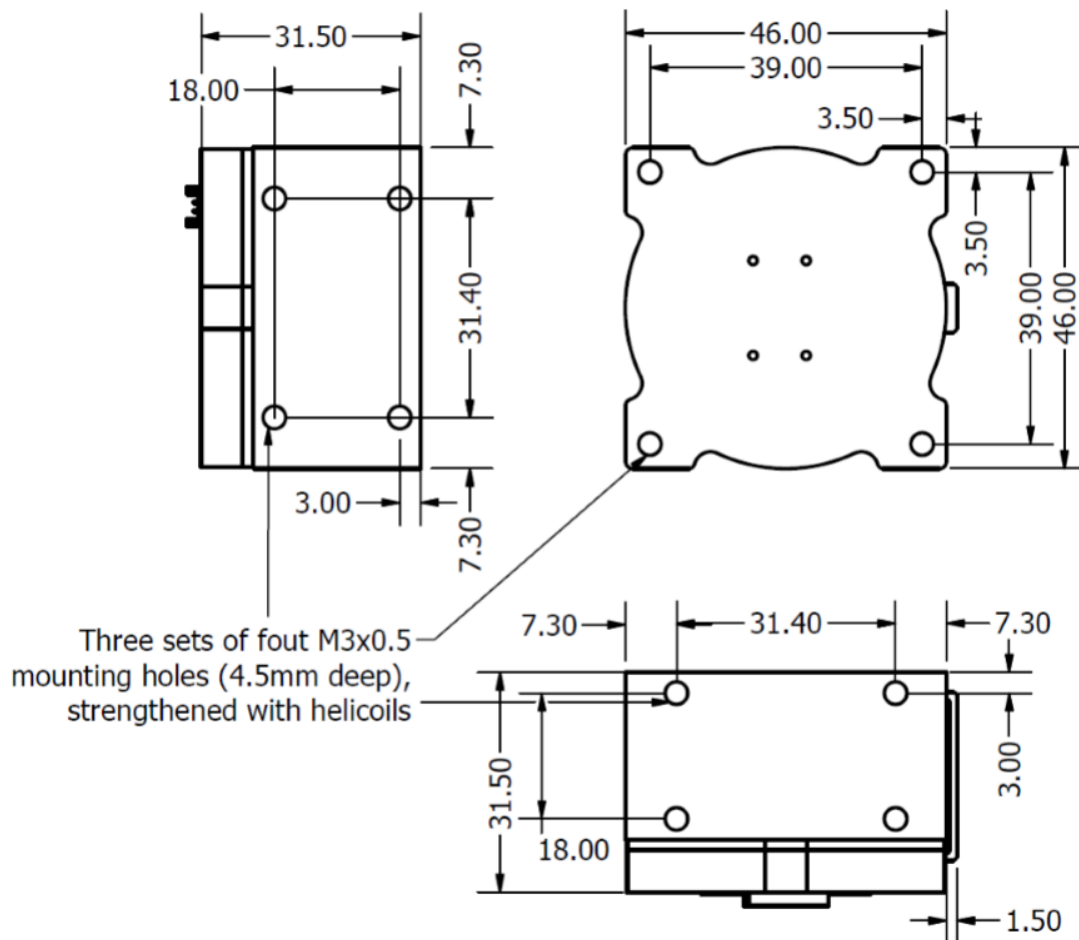

Figure 9 – Medium CubeWheel mechanical interface
The Medium CubeWheel unit has three sets of four M3 mounting holes on three different facets, as illustrated in Figure 9. The outer dimensions of the Medium CubeWheel are 46 mm x 46 mm x 31.5 mm. Note that an additional 1.5 mm is required on one side of the CubeWheel for internal harnesses. The M3 mounting holes will be fitted with A2 (304) stainless steel heli-coils to provide a stronger and more durable thread.